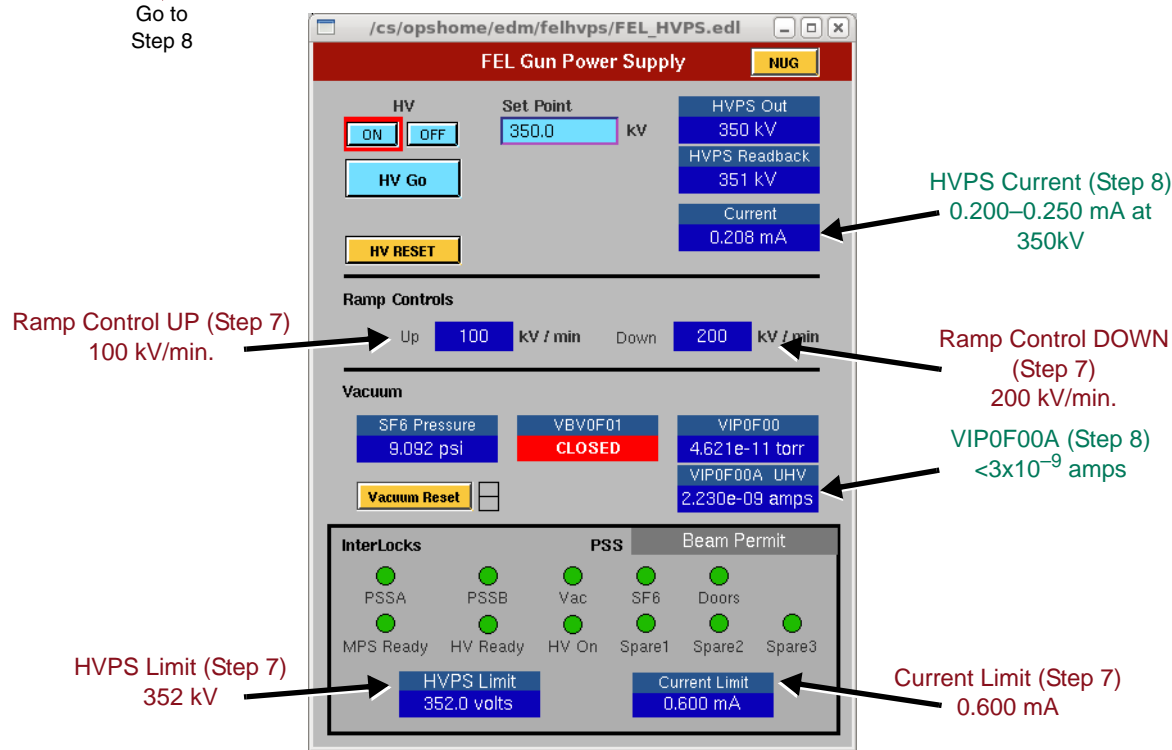

Figure 3: Limits, Ramp Rates, & Readbacks
7. Are the limits on the *FEL Gun Power Supply* screen exactly as follows (see Figure 3, below)?
- **Vacuum (VIP0F00Acur):** $<3 \times 10^{-9}$ amps (notice that this signal is given in amps from the ultra high vacuum ion pump controller. This is equivalent to $\sim 4 \times 10^{-11}$ Torr) (value also shown on Figure 3, above)
- **HVPS current (IGL0F00HVPSmAmps):** between 0.200–0.250 mA at 350kV (value also shown on Figure 3, above).